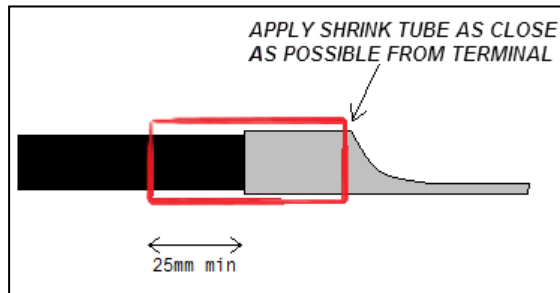

Figure 11
B3. Unfasten positive terminal block fixing nut. (8, Fig. 11) remove booster block and discard.
- B11. Insert well nut **④** #500678 in protective box lower right mounting hole. (Fig 11, 13) If using the original bracket, remove rivet in this location.
- B13. Insert booster block #561856 through support hole, slide foam sealing washer **⑤** #382444 over and then protective box **①** #382441 making sure drip hole is at the bottom. Fasten fixing nut of booster block terminal (Refer to figure 11).
B14. Secure protective box ① to support using round head machine screw ② #5001305, flat washer ③ #5001137. (Fig. 11 & 13).